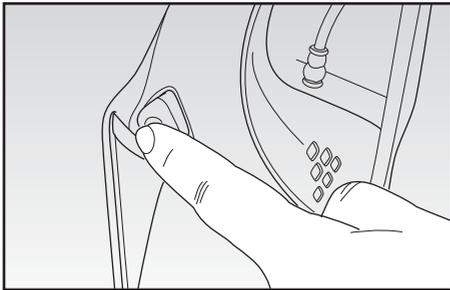

Fig. 6
- With the handheld part (C) properly assembled in the appliance body (M), press the switching on button (B) situated on the removable body (C) and tilt the handle backwards in the standard position of use (Fig. 6).
- Clean the wide surfaces by pushing with the brush (J) forwards.